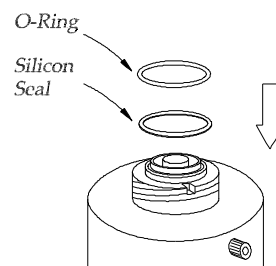

Fig. 4.2.7
8. Hold the gas sensor with the electrode pointing upwards. Ensure that the new O-ring has the appropriate colour and that, if applicable, the silicon seal is in place. (fig. 4.2.7)